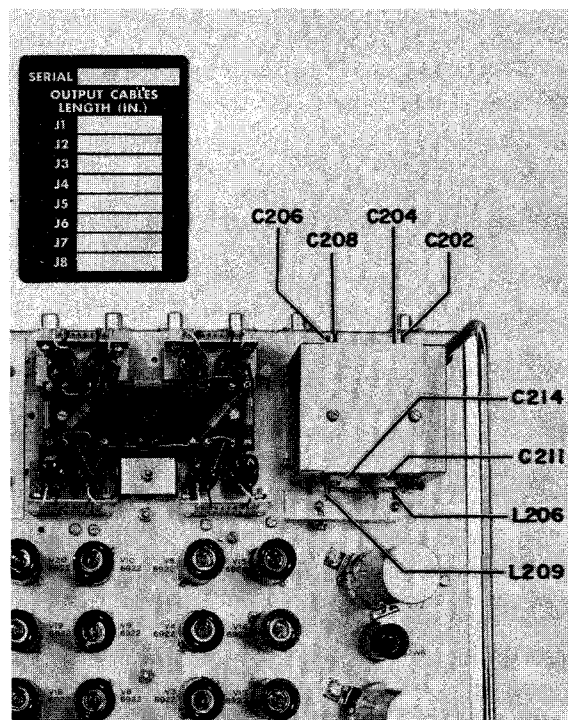

Figure 6-1. Antenna Coupler CU-872/U,
a. GENERAL.—Coils L49 through L52 should need adjustment only in case of damage. If the coil has not been broken replacement may not be necessary and reference should be made to paragraph 6-3d. If the coil has been broken, replacement and adjustment will be necessary. Location of the coils is shown in figure 6-1.
a. GENERAL.—The following paragraph gives a detailed procedure for adjustment of filter Z2. Locations of adjustments are shown in figure 6-1. All adjustments on filter Z2 are sealed with cement. Adjustment should be made only after a critical component fails and is replaced, or when other circumstances require it. Whenever the amplitude response of filter Z2 is adjusted, the adjustments described in paragraph 6-5 must also be performed.
Locations of phase adjustments are shown in figure 6-1. All adjustments on filter Z2 are sealed with cement and phase adjustment should be made only after a critical component fails and the phase of the no. 3 output of the unit is found to be more than 2 degrees at 28 mc when compared to the no. 3 output a chosen reference coupler. The phase adjustment procedure of this section may be performed independently of the adjustment of amplitude response of filter Z2 described in paragraph 6-4.
Step 2. Consult the output cable length identification plate located inside the chassis near the output terminals of Z1 and note the length given for the cable to be replaced. The output cable identification plate is shown at the top of figure 6-1.